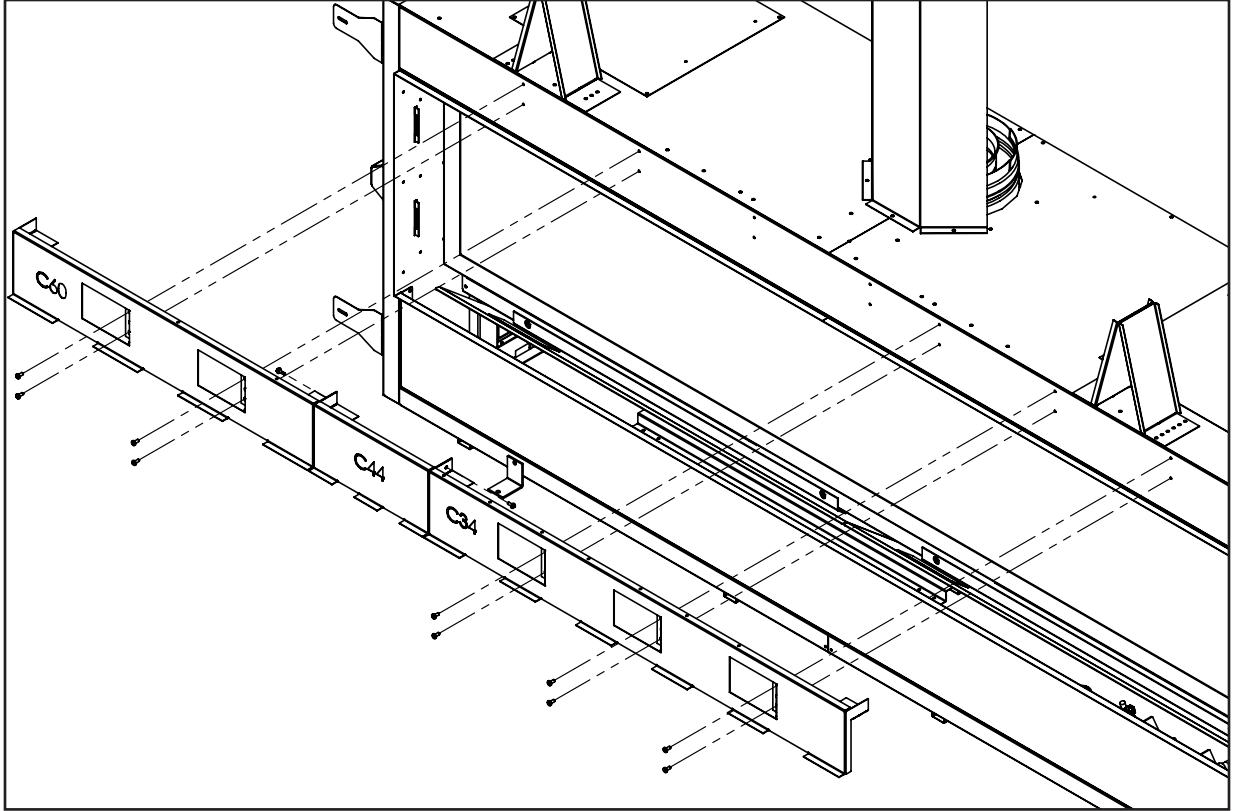

Figure 19. Combustible Facing Kit C72
**Step 6:** If installing a C44 or C60, attach your extension piece to the C34 main panel. If installing a C72, attach all the extension pieces together in the order shown in Figure 19. Note, the c72 parts will not line up to the edge of the tiling flange.